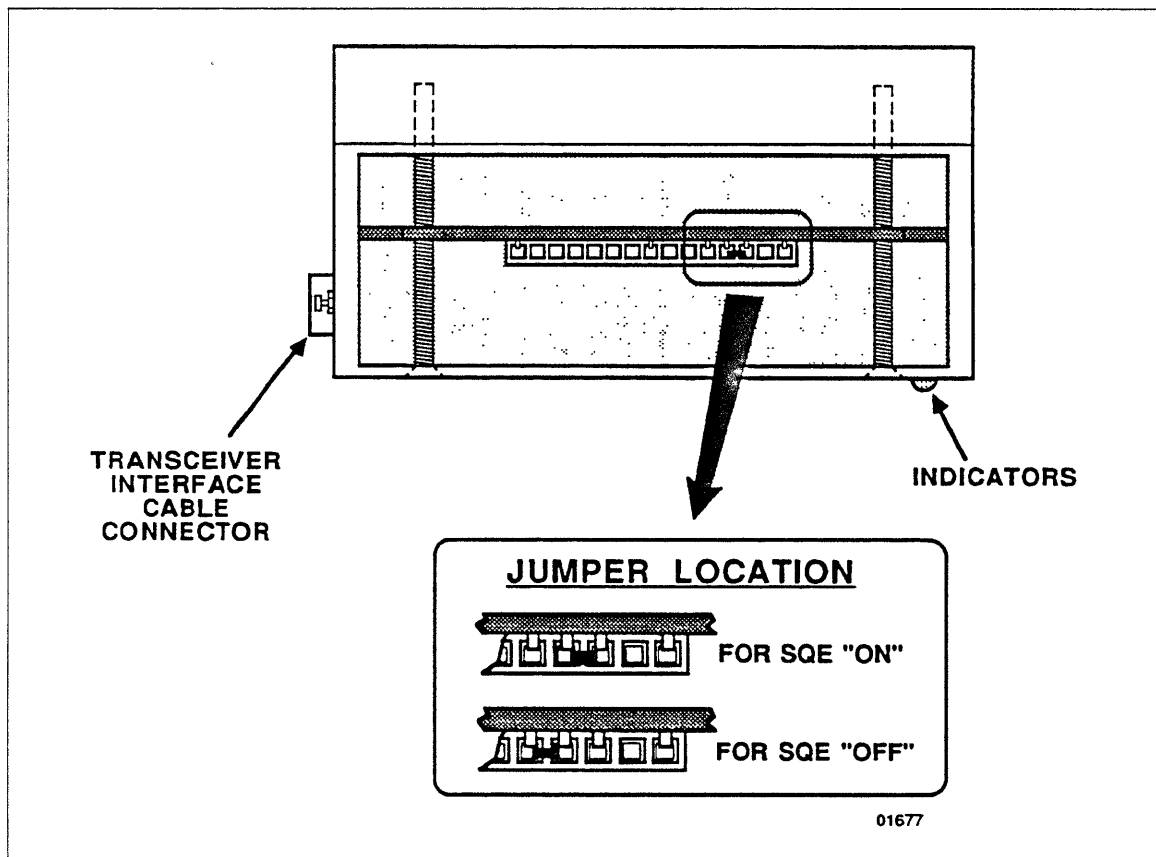

Figure 2-9. SQE Jumper Locations
9. Set transceiver SQE (Signal Quality Error) jumper to the proper position for the type of device being connected to the transceiver. Refer to figure 2-9 for a top view of open transceiver (without tap attached) showing SQE jumper locations.
- a. For device interface (DI), integrated communications adapter (ICA), or multiplexer (mux), turn heartbeat test (SQE) on by moving jumper to third and fourth positions from right (figure 2-9).
- b. For repeater, turn SQE test off by moving jumper to fourth and fifth positions from right (figure 2-9).